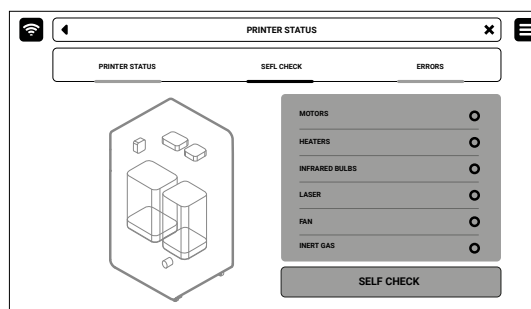

Fig. 13.3 The **SELF CHECK** screen.
- SELF CHECK** tab, in which it is possible to check that all components in the printer are working correctly (motors, laser, heaters, etc.; fig. 13.3).